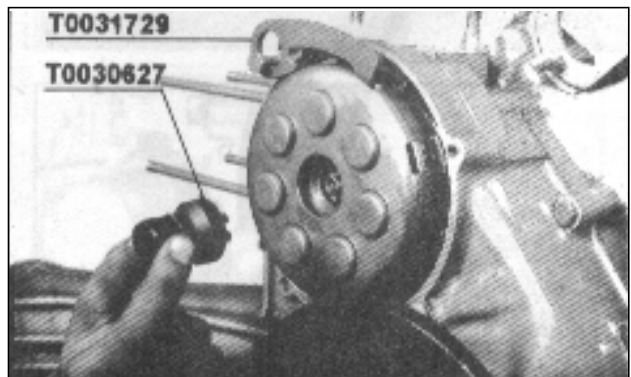

Fig. 171-Wrench for clutch assy.
- (c) Tighten ring nut with wrench T-0030627 to torque 4.0 - 4.5 kgm. (fig.171).